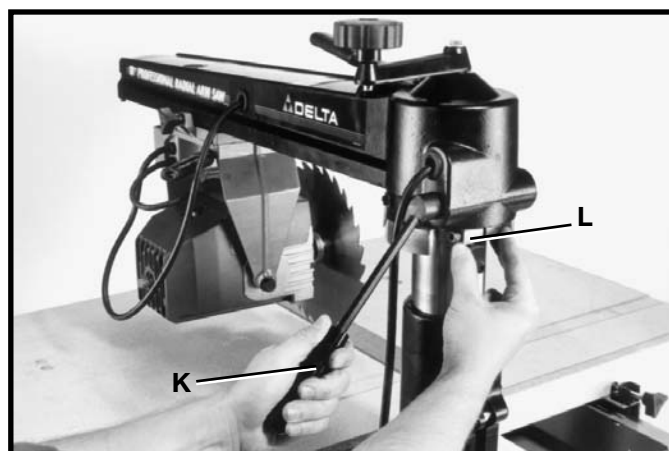
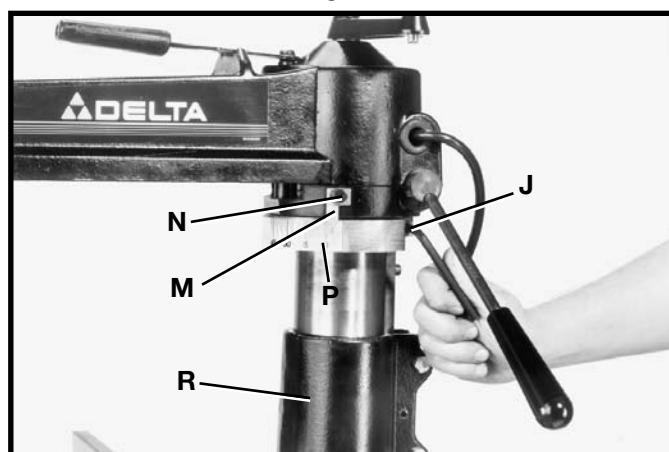

Fig. 35
Fig. 36
8. With track arm clamp handle (K) Fig. 35, tightened, rotate index ring (L) counterclockwise until it stops. Then tighten index ring locking screw (J) Fig. 36.
9. There are two miter index pointers, one of which is shown at (M) Fig. 36. Adjust as follows: loosen screw (N) and move pointer (M) until it lines up with the "zero" mark on the miter scale (P). Then tighten screw (N). Adjust the miter index pointer located on the other side of column (R) in the same manner.